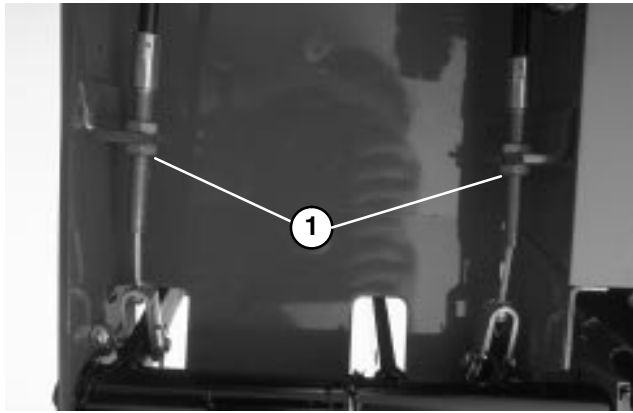

Figure 36
2. To reduce free travel of brake pedals — tighten the brakes — loosen front nut on threaded end of brake cable (Fig. 36). Then tighten rear nut to move cable backward until brake pedals have 1/2 to 1 inch (13 mm to 25 mm) of free travel. Tighten front nut after brakes are adjusted correctly.